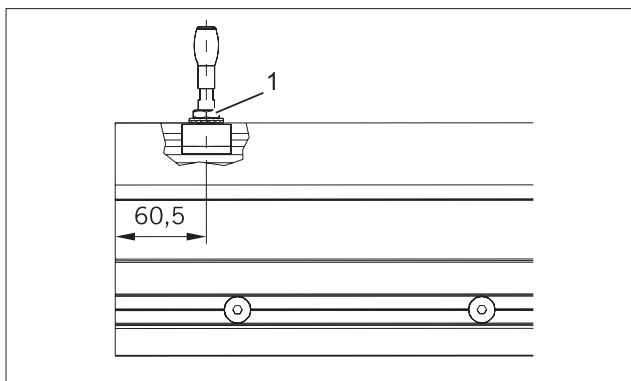

Fig. 22 Aligning support block
- Align the support block center-lined in the upper door rail at a distance of 60.5 mm from the edge (Fig. 22).
- Tighten the nut (Fig. 22/1) on the support block using a 17-mm open-end wrench.